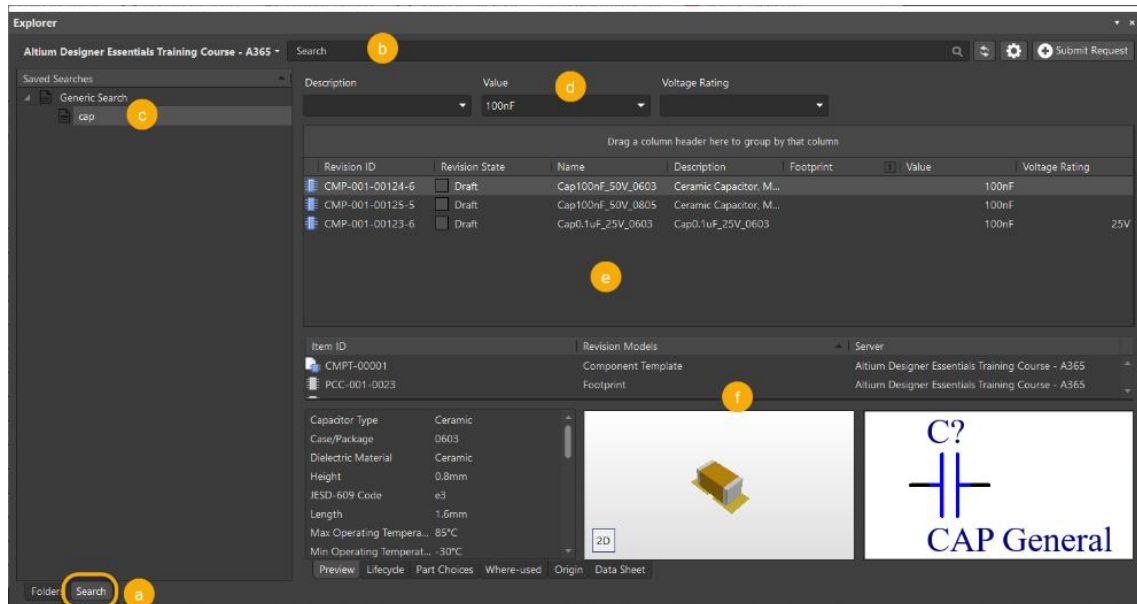

Figure 4 Explorer Panel - Search Component View
9. A second view allows you to search for specific components, as shown in Figure 4.